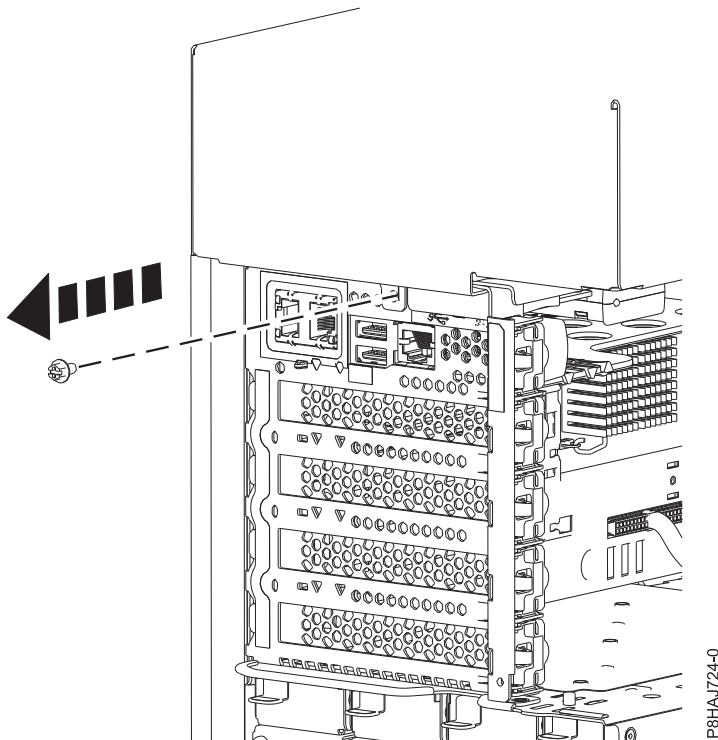

Figure 18. Removing the screw from the 8286-41A side cover
4. Remove the rear screw from the side cover by using a Phillips screwdriver as shown in Figure 18.